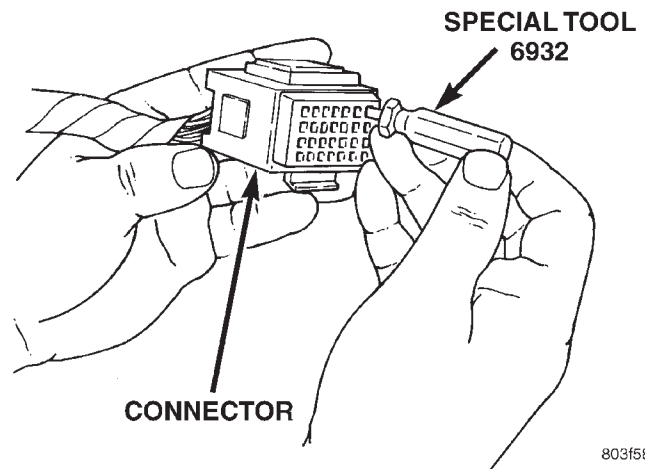

Fig. 15 Using Special Tool 6932
(4) Using special tool 6932, push the terminal to remove it from the connector (Fig. 15).
(5) Repair or replace the connector or terminal as necessary.
(6) When re-assembling the connector, the locking wedge must be placed in the locked position to prevent terminal push out.